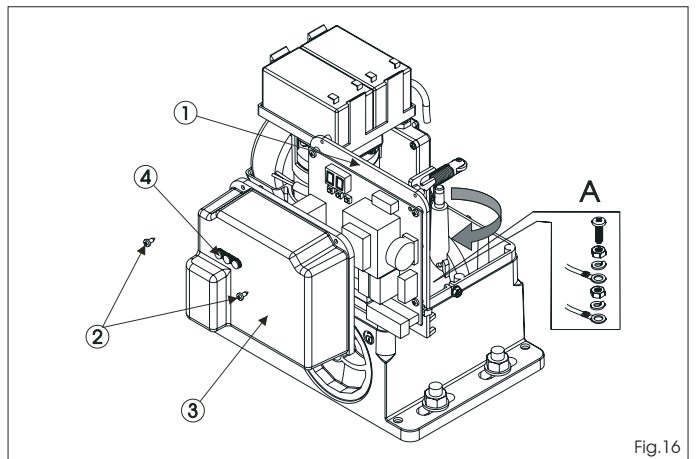

Fig. 16
Connect the earth cables as shown in Fig.16 ref.A.
In the gearmotors, the electronic control unit is fitted to an adjustable support (Fig. 16 ref. 1) with transparent lid (Fig. 16 ref. 3). The board programming push buttons (Fig. 16 ref. 4) have been located on the lid. This allow the board to be programmed without removing the lid. For correct connection of the control unit, follow indications the specific instructions: